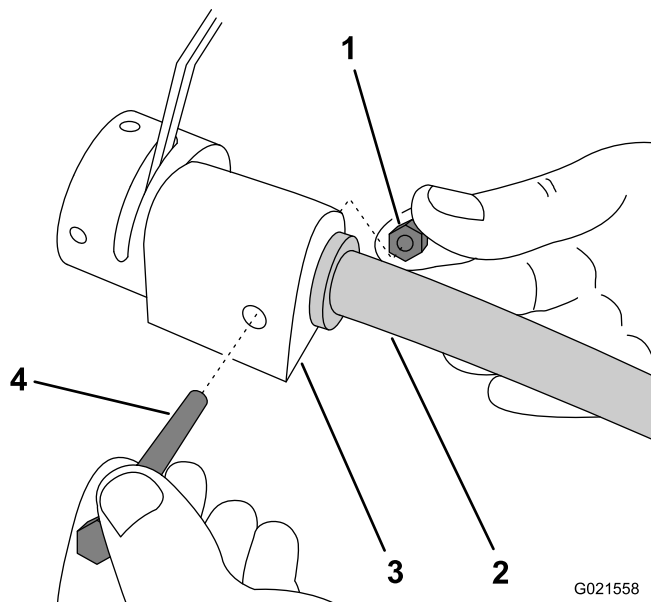

Figure 5
1. Align the inner core of the handle with the core adapter on the throttle control box (Figure 5), and insert it fully.
2. Insert the bolt through the throttle control box, and secure it with the locknut (Figure 5).